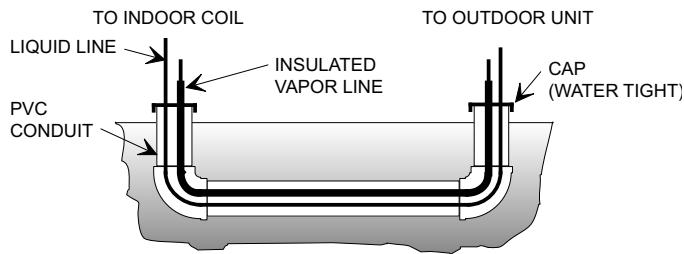

FIGURE 2: Underground Application
- Use PVC piping as a conduit for all underground installations. See Figure 2. Buried lines must be kept as short as possible to minimize the build up of liquid refrigerant in the vapor line during long periods of shutdown.